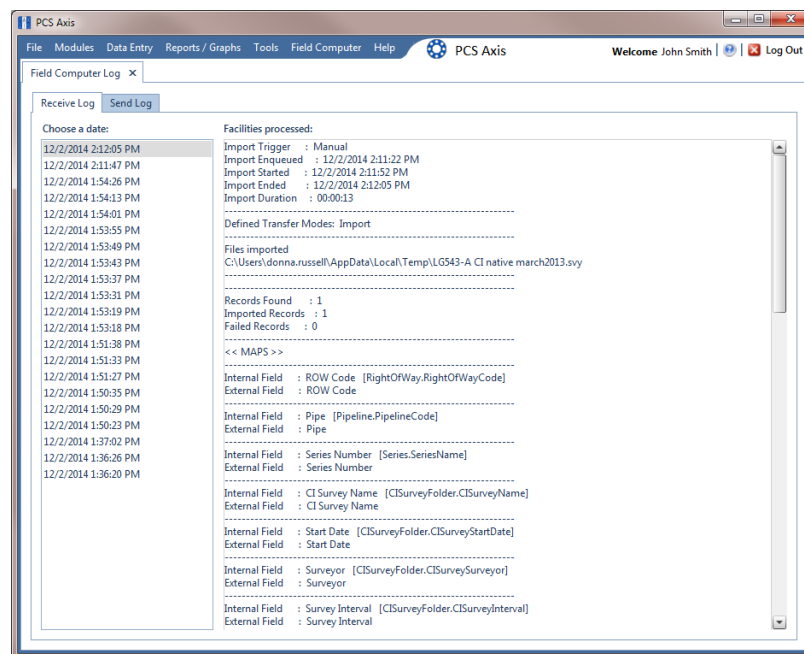

Figure 13-48. Field Computer Log / Receive Log
- 2 Click the **Receive Log** tab to view facility records received in PCS Axis from the Allegro Field Computer (Figure 13-48).